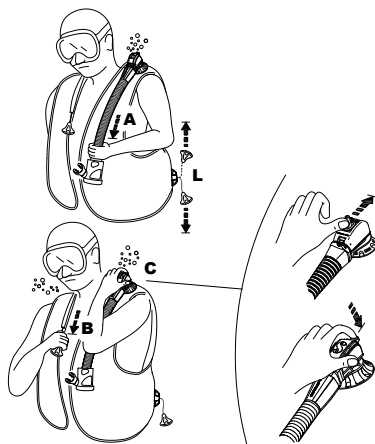

fig. 7
Stop and assume an upright position in the water. When in position, open the Manual Dump Valve by gently pulling downward on the Oral Valve/Power Inflation Valve Assembly (fig. 7 - A). It is not necessary to use excessive pressure to pull on the hose assembly. Valve travel is limited and pulling harder will not increase the air flow. To close the Manual Dump Valve, stop pulling downward, and release.
- The SCUBAPRO® Dual Manual Dump Valve (Patent) has a safety hand button that releases air when pushed (fig 7-C) , in case of failure of the Manual Dump System (broken cable, pin, etc.) or while breathing from an Air 2.
- a) pulling gently on the hose assembly (fig. 7 - A).
- b) pushing on the button that protrudes out of the valve casing (fig. 7 - C) (Patented):
The valve on the right shoulder, if present, is activated by pulling gently on the knob which is connected via a lanyard to the valve itself (fig. 7 - B). To operate either style of dump valve, orient the valve to a position higher than the air bubble in the BC. Activate the dump valve until the desired amount of buoyancy is reached. Stop pulling/pushing to close the valve (fig. 7 - B).
Lower Dump Valve (fig. 7 - L)